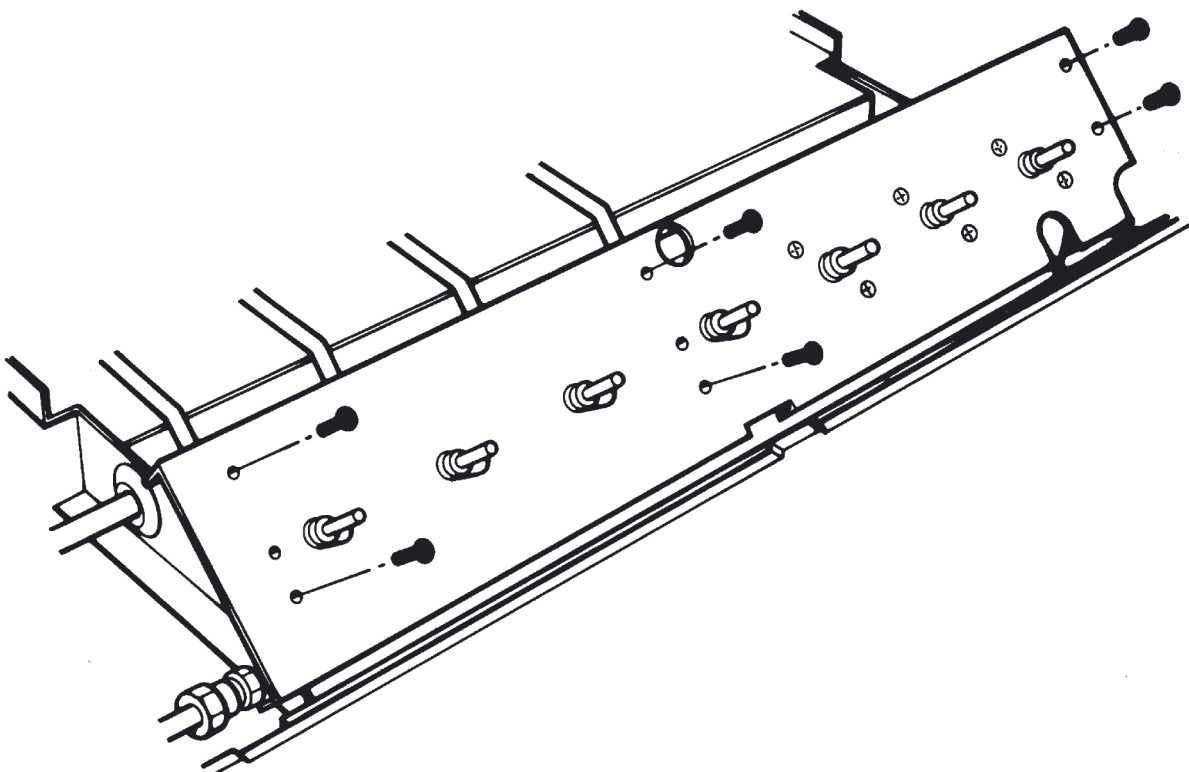

Fig. 14
3. Remove controls mounting plate by removing the 6 screws (As shown in Fig. 14).